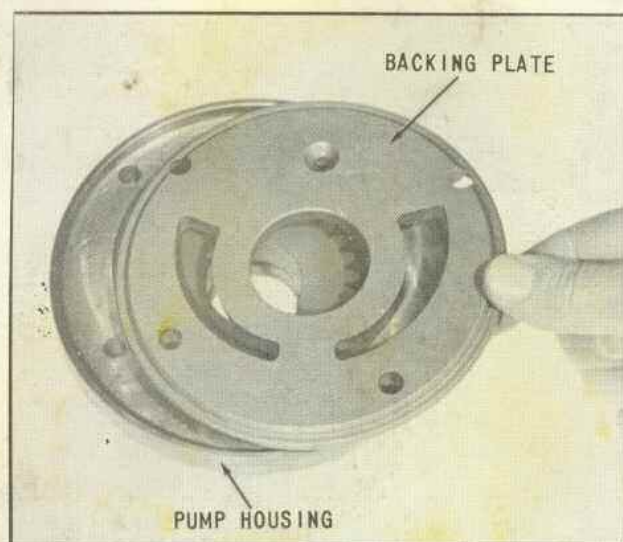

Fig. 95 Installing Backing Plate
9. Inspect both faces of backing plate for dirt, lubricate and assemble, as shown in (Fig. 95).